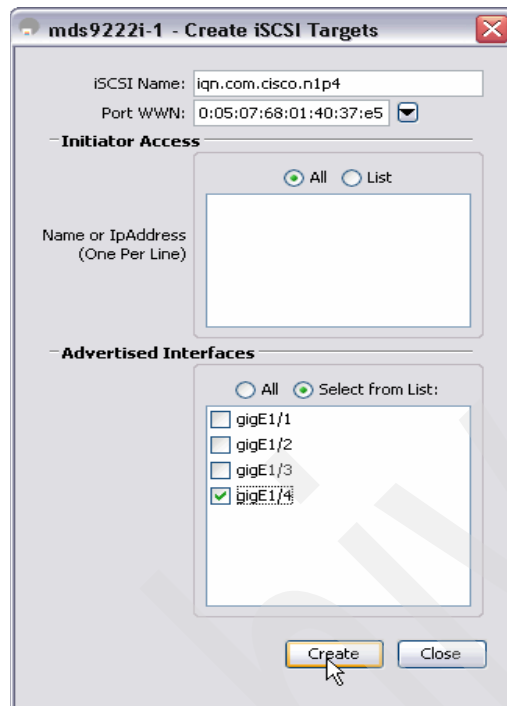

Figure 7-42 Device Manager Create iSCSi Targets panel
3. We choose **gigE 1/4** as the only interface where that target will be mapped (Figure 7-42).